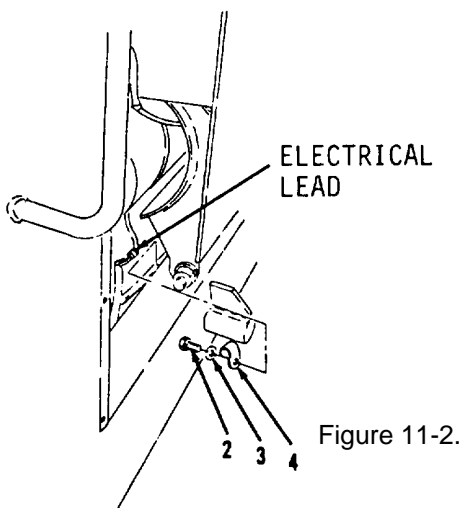
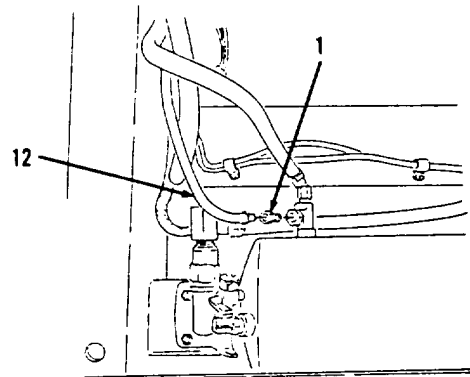

Figure 11-2.
Figure 11-1.
17. Install clip (4), washer (3) and bolt (2, Figure 11-2) on right, rear frame, near alternator.
18. Insert electrical lead into frame bracket above bolt (2).
19. Install connector (1, Figure 11-1) on air tank under rear, right side of vehicle.
20. Connect hose assembly (12) to connector (1).